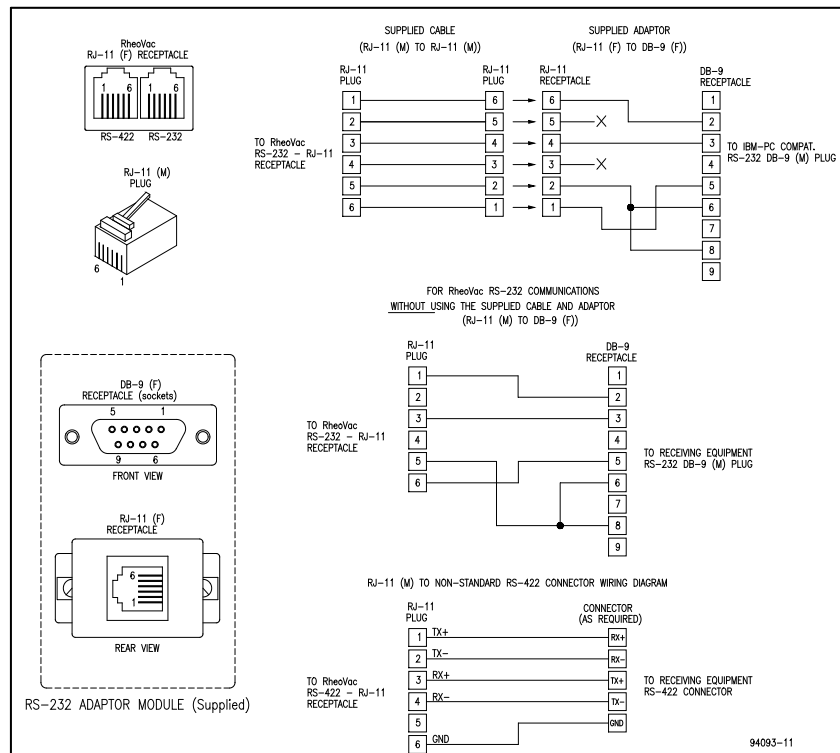

Figure 5: Serial communication interface
1. **Transmitter(s) Power/COM:** A DeviceNet 5711 cable is used all probe/sensor/4-20mA transmitters. The color code for this cable is: **RS-485 communications:** white (A), blue (B) and shield (SH); **power:** 24Vdc, red (+), and black (-).
4. **Serial Communication:** Connector JP3 on the CPU interface PWA (printed wiring board #08017-1) is the RS-232 and RS-422 serial communication interface. The configuration information for a RJ-11 to DB-9 adapter is shown in Table 1 and Figure 5.